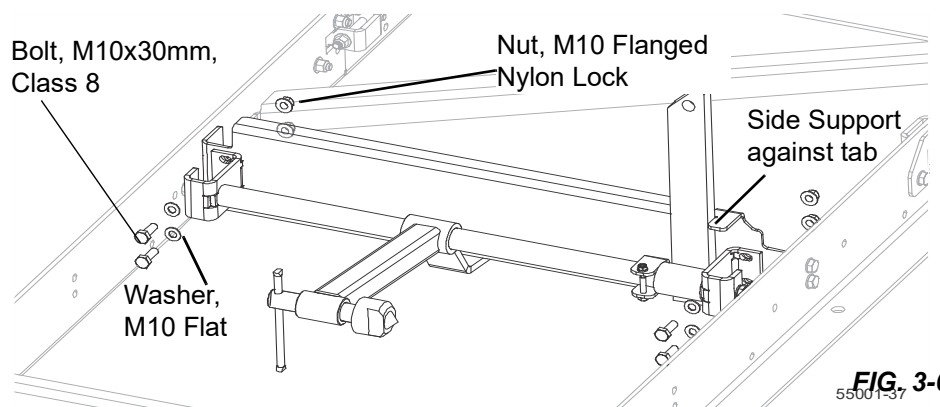

FIG. 3-6
Attach the complete log clamp in the middle of the bed using the M10x30mm bolts. See Fig. 3-6.
4. Assemble the second log clamp near the end of the log bed. See Fig. 3-6.